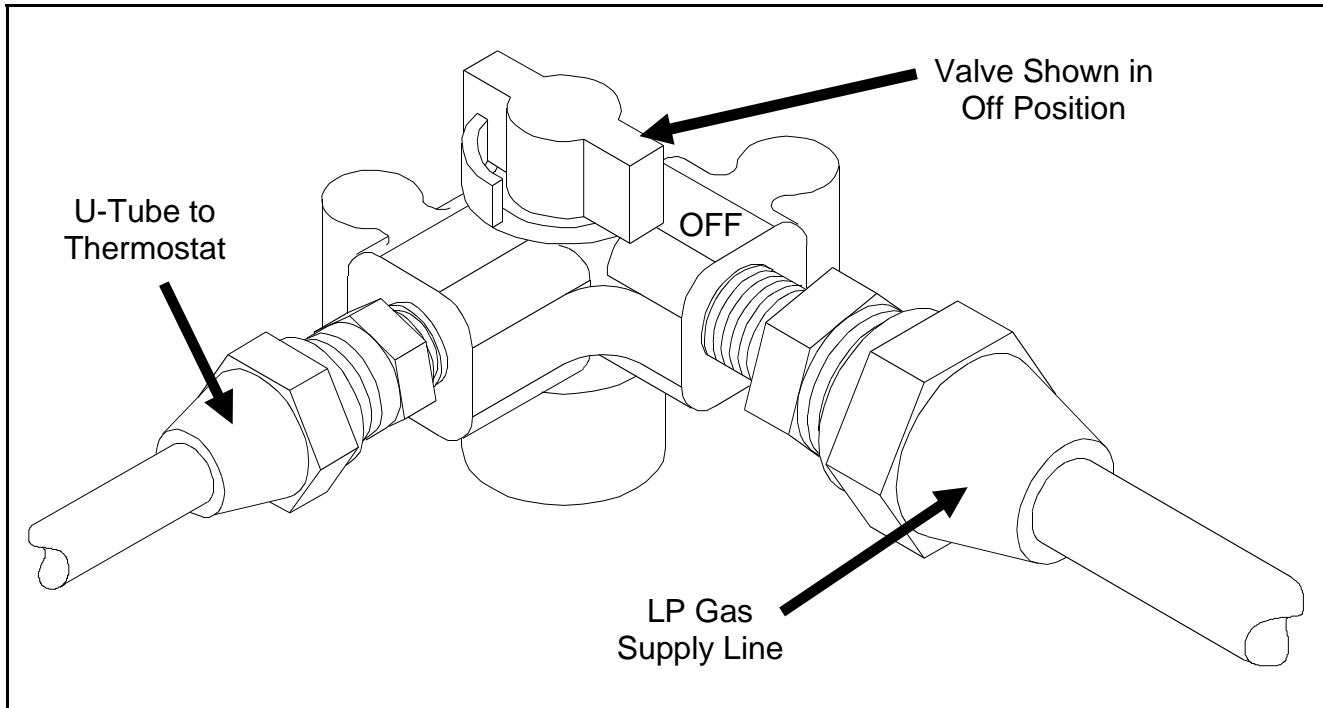

Figure 4 - Manual Shut-Off Valve
8. Turn the manual shut-off valve located on top of the refrigerator to "OFF". See Figure 4.
11. Disconnect the LP gas supply line from the refrigerator's manual shut-off valve. See Figure 4.
6. Turn the manual shut-off valve located on top of the refrigerator to "OFF". See Figure 4.
8. Disconnect the LP gas supply line from the refrigerator's manual shut-off valve. See Figure 4.